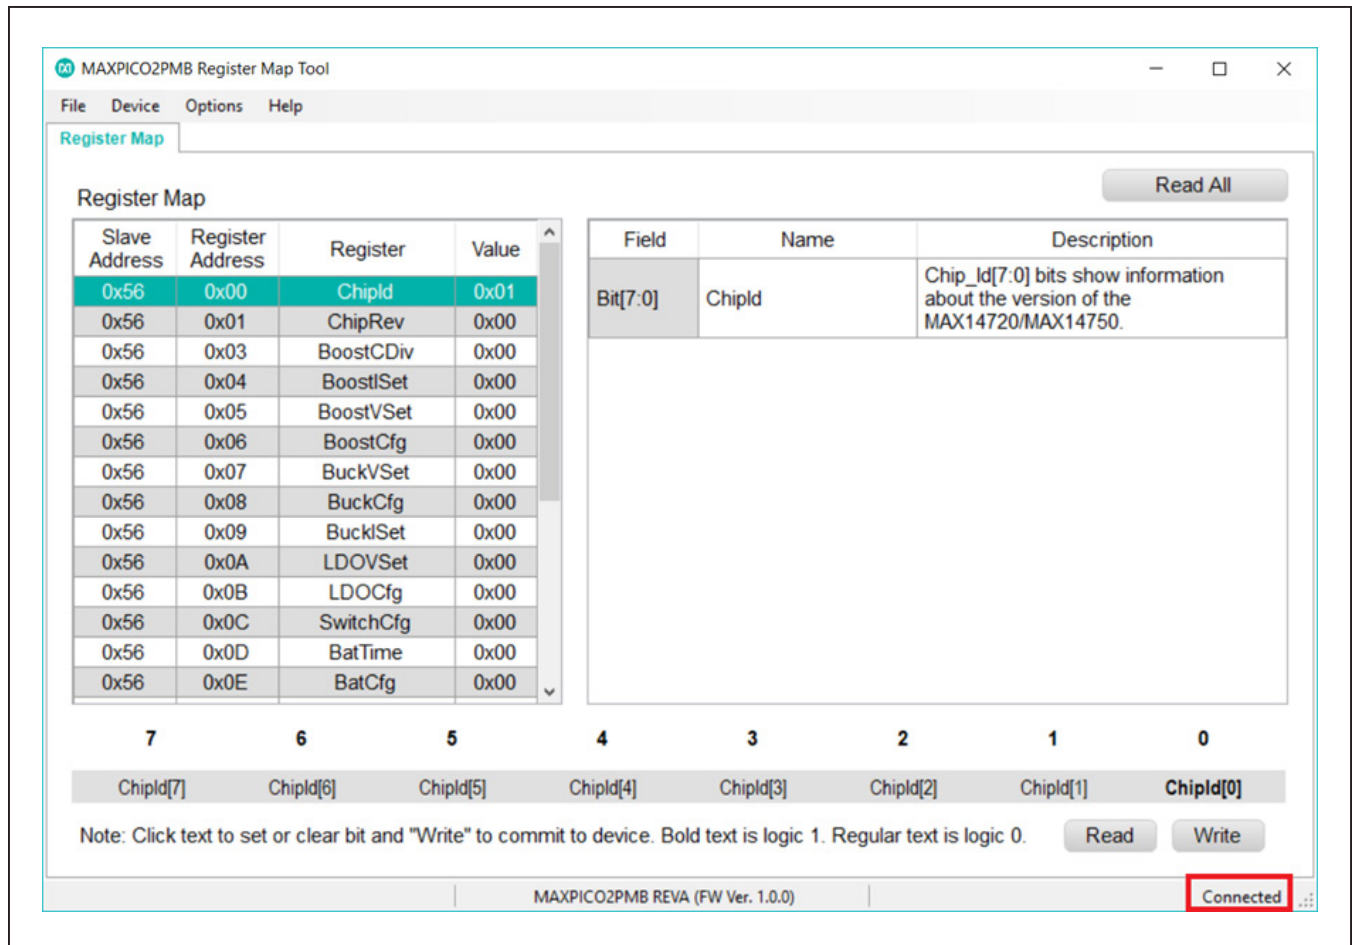

Figure 4. Regmap Populated and Status Shows Connected
- 14) Reinstall JP2 and JP16 on the MAX14750_SYS_EVKIT_A and the status of the EV kit tool now show **Connected**. Upon successful connection, the device info populates in the EV kit software (See Figure 4).